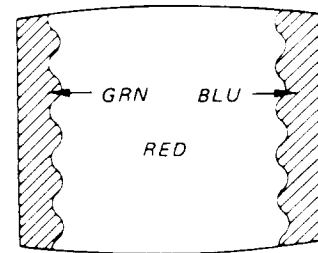

Fig. 1-2
6. Turn purity control to center vertical red band as shown in Fig. 1-2.